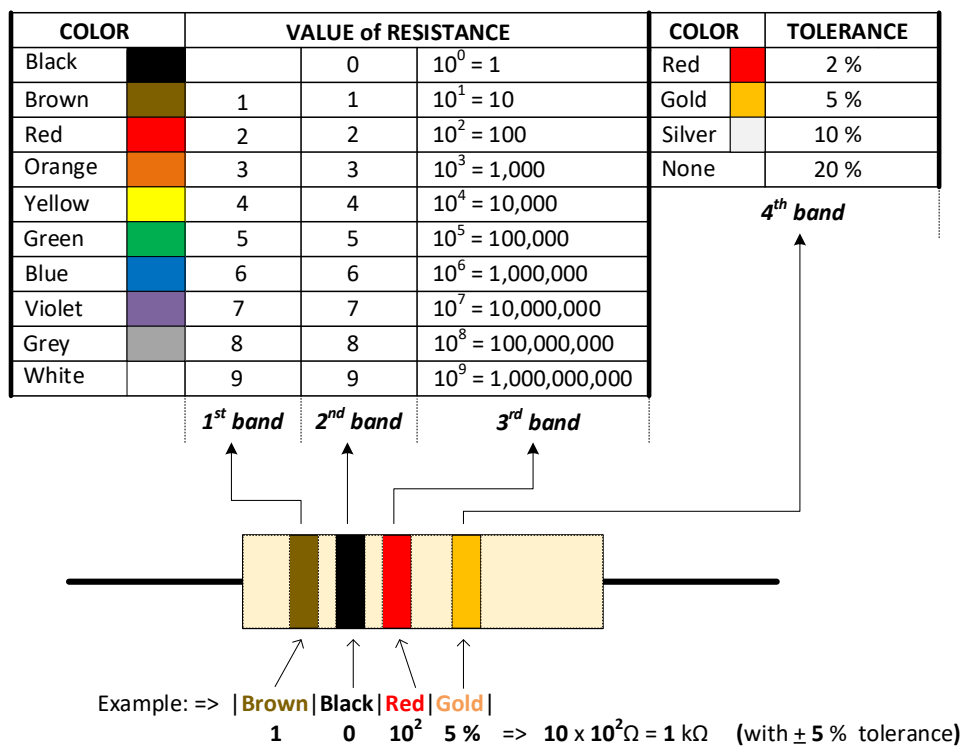

Figure 1.0f: Standard Resistor Color-Code Chart
Manufacturers specify a resistor's *nominal* resistance value and its *tolerance* using color-codes on the resistor. The *tolerance* means that the **actual value** of the resistor is guaranteed to be within this amount of its *nominal* value. For example, a resistor with its nominal value labelled as $1k\Omega \pm 5\%$ means that the manufacturer guarantees the actual resistance will be between 950Ω and 1050Ω . The standard resistor Color-Codes Chart¹ is illustrated in **Figure 1.0f**.
- To familiarize with the operation of basic electrical equipment such as a DC Power Supply (PS) and Digital Multimeter (DMM).
- Digital Multimeter (DMM) and Power Supply (PS)
- (a) Use the Standard Resistor Colour-Code Chart in **Figure 1.0f** to: (i) determine the numerical value, tolerance and acceptable resistance range for each colour-coded resistor listed in **Table 1.0a**, and (ii) identify the corresponding 4-band colour codes of each resistor value listed in **Table 1.0b**. (Note: $1 \text{ k}\Omega = 1 \times 10^3 \Omega = 1000 \Omega$)